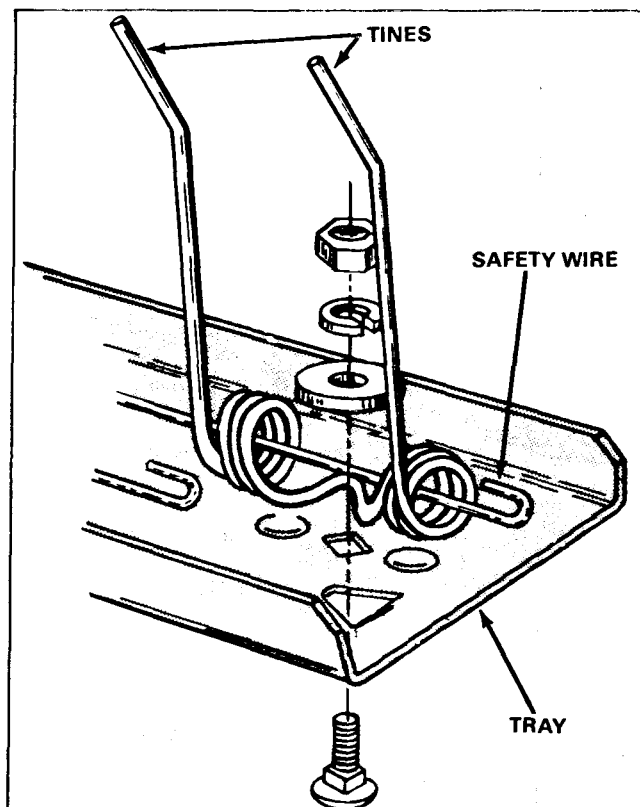

Figure 76
1. Install the six tines to the tine tray by laying the tray on a flat surface with the flanges facing up. See Figure 76.